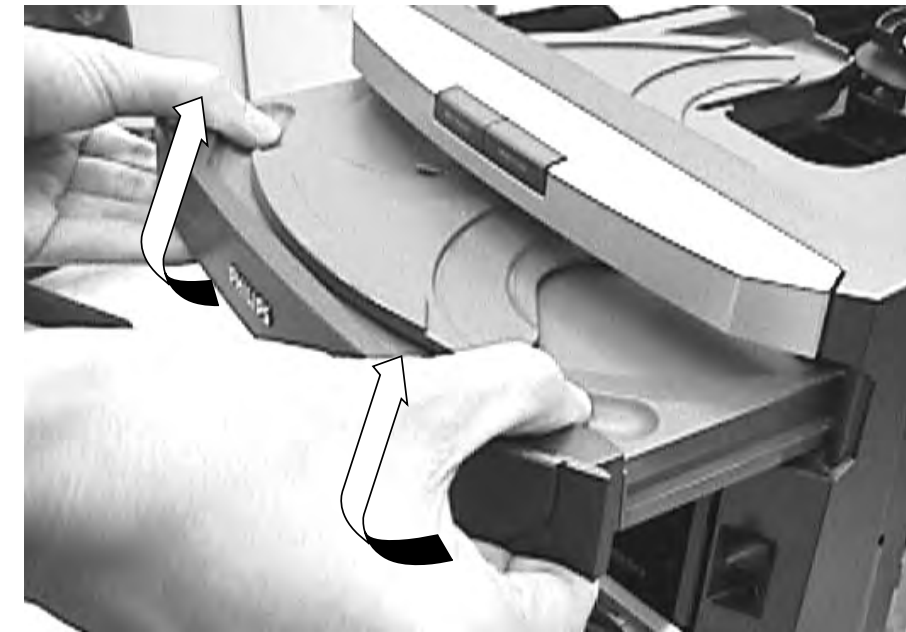

Figure 4
- 4) Remove the Cover Tray (pos 106) as shown in figure 4.